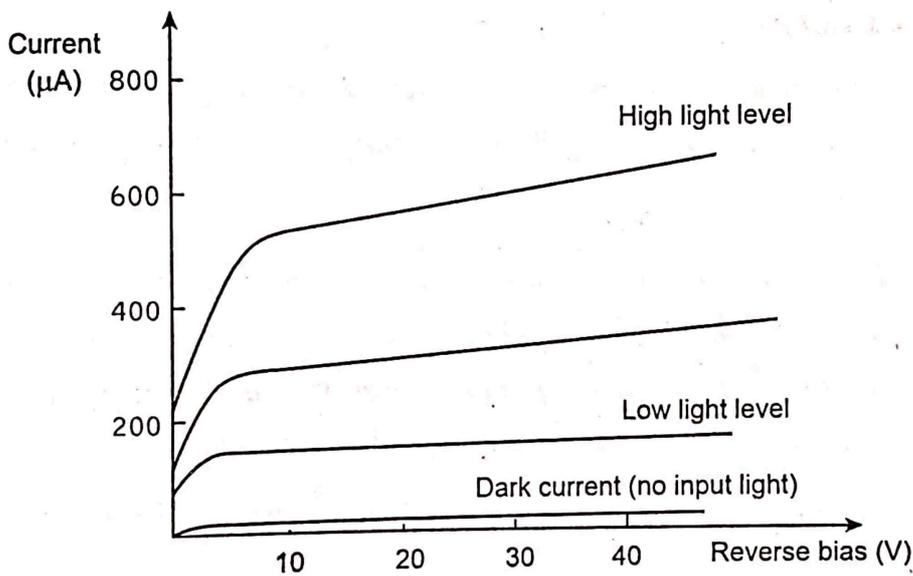

Fig 7.5 Typical  $p$ - $n$  photodiode output characteristics
- Typical output characteristics for the reverse-biased  $p$ - $n$  photodiode are illustrated in Fig 7.5. The different operating conditions are moving from no light input to a high light level.